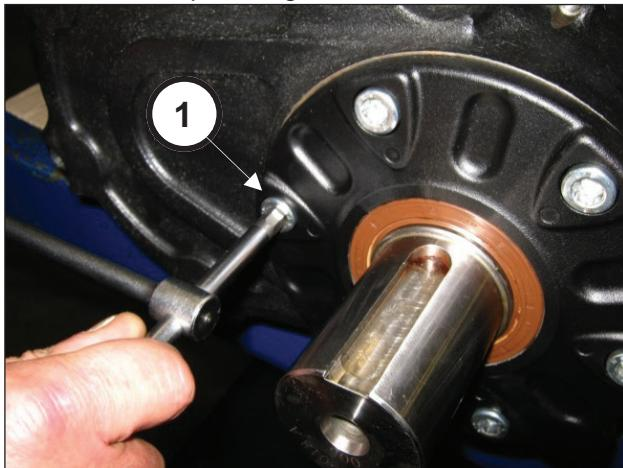

Fig. 4
Unscrew the pinion cover fixing screws (pos. ①, Fig. 4) and remove the cover (pos. ①, Fig. 5).